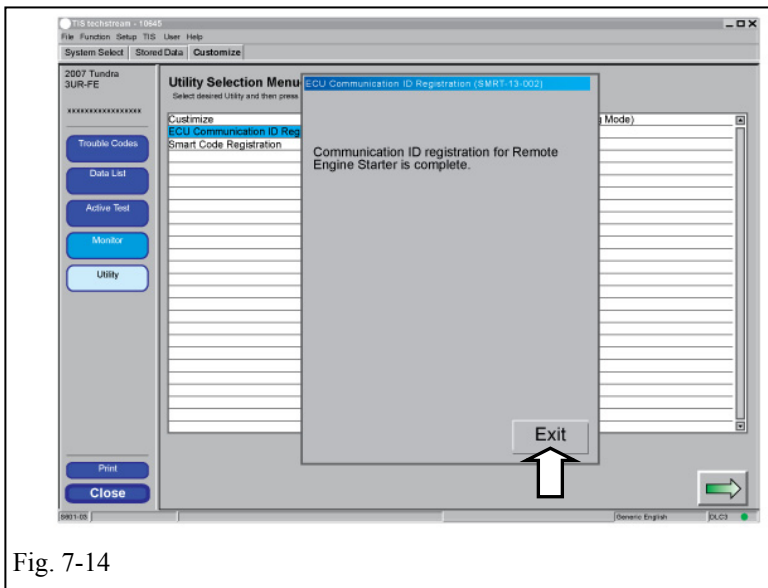

Fig. 7-14
- (y) Click "Exit" (Fig. 7-14)